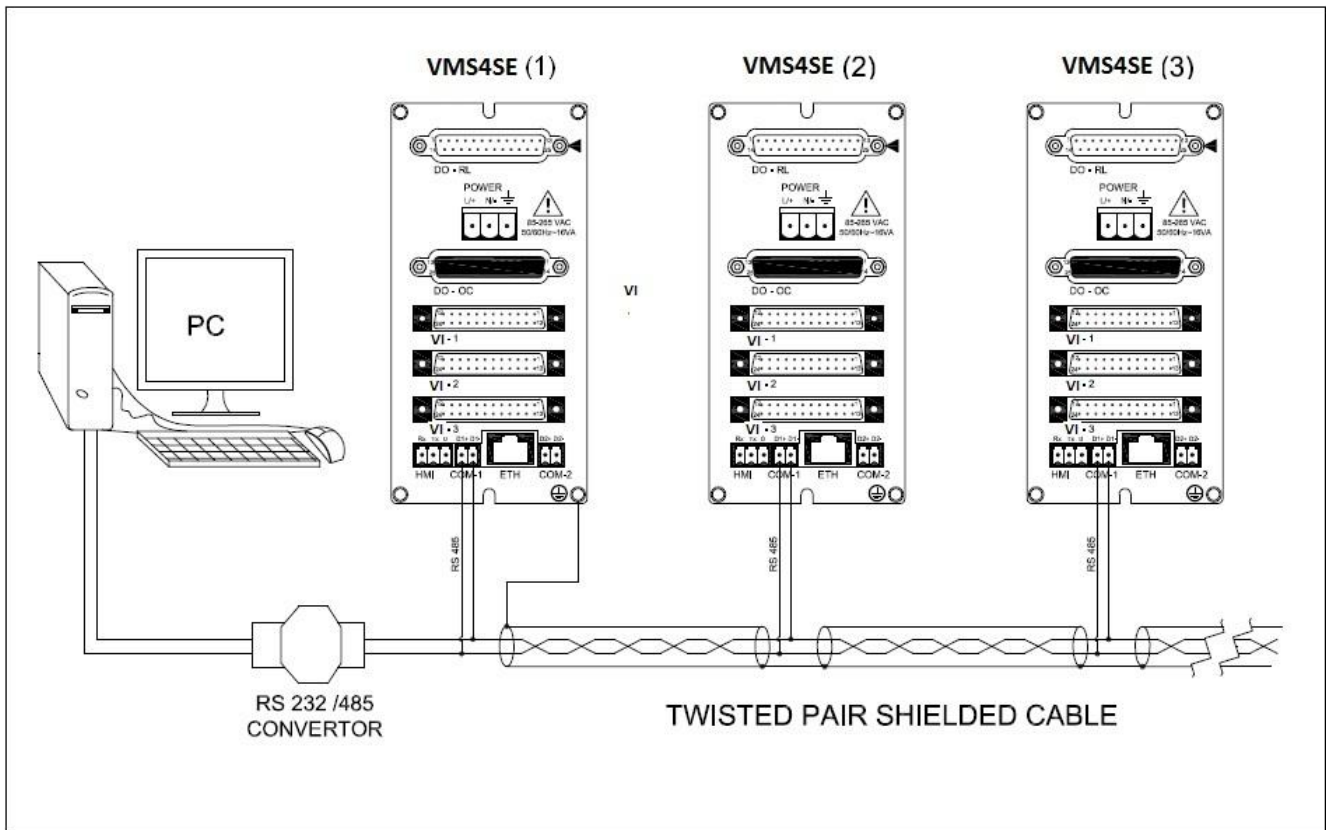

Figure 14 Communication Cable Connection
- 1) Connect Digital Output- Relay cable and Open Collector / Analog Output cable , Analog Input cable and Communication cable to VMS4SE as shown in **Error! Reference source not found.**, Figure 9, Figure 10 / Figure 11, Figure 14 respectively.